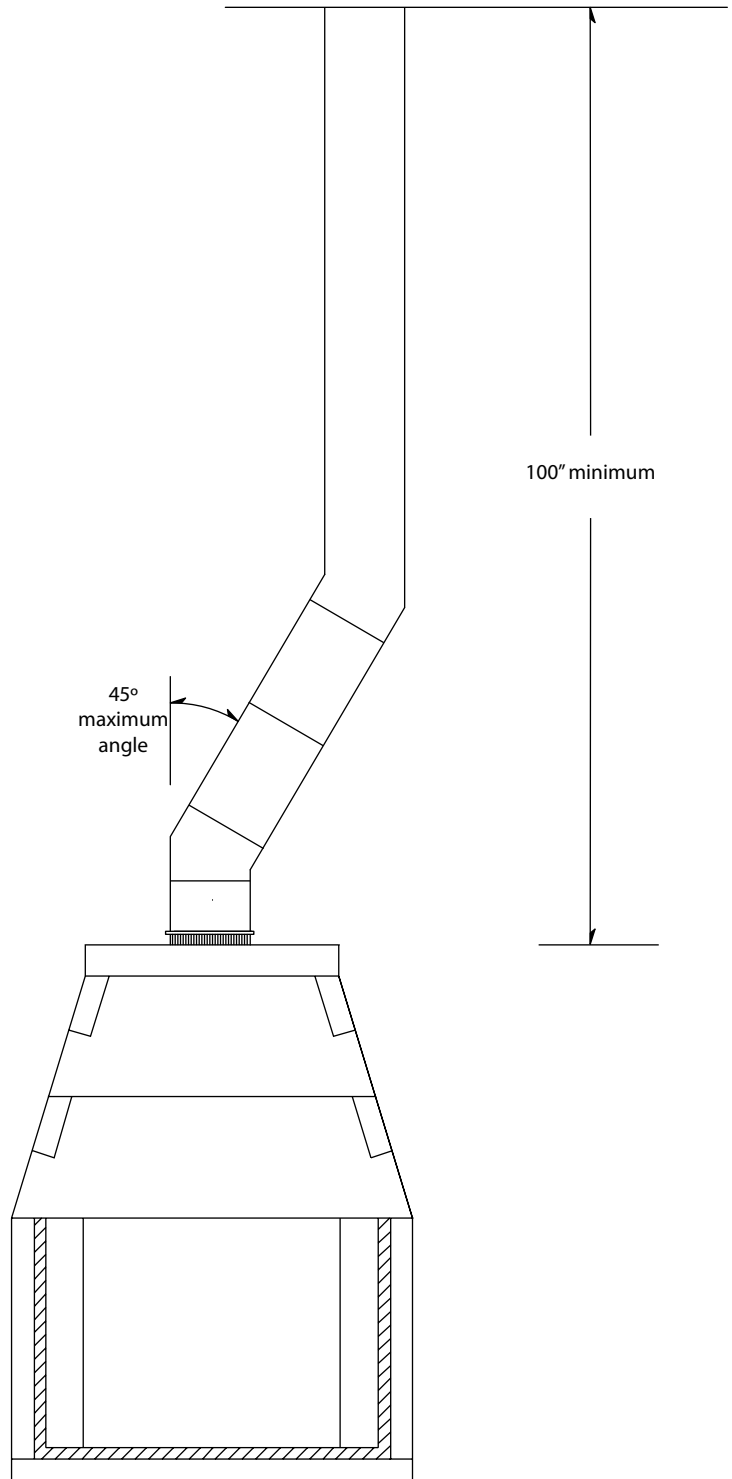

Figure 21
8. Minimum required chimney height is one hundred inches (100"). (Figure 21)
9. Maximum chimney offset angle is forty-five degrees off of vertical. (Figure 21)